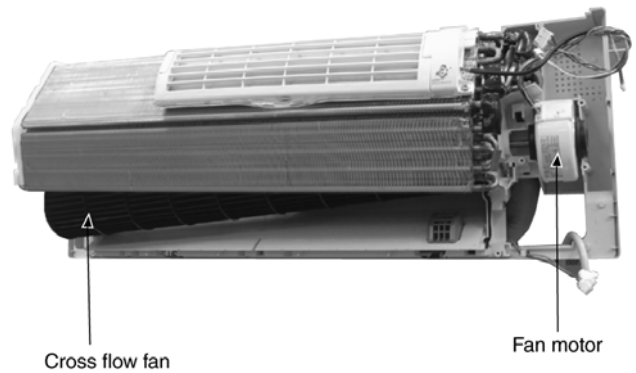

Fig. 10
- Push up the evaporator and remove cross flow fan by pulling both cross flow fan and fan motor. (Fig. 10)